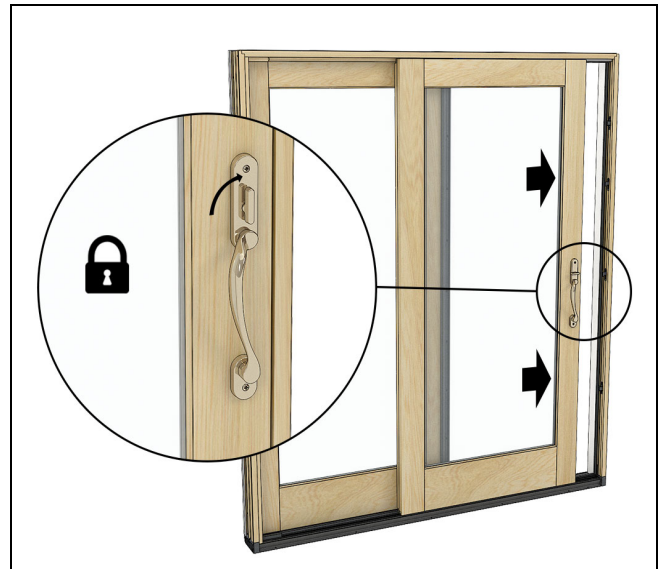

Figure 28 Sliding Patio Door shown.
1. On Swinging Doors: close the door completely until the latch engages the strike. Turn the thumb turn to lock. Once locked, the locking sensor will activate and your door will be considered closed and locked. See Figure 28.
2. On Sliding Doors: close the door completely until the latch engages the strike. Lock handle with lever or thumb-turn (depending on product). Once locked the locking sensor will activate and your door will be considered closed and locked. See Figure 28.